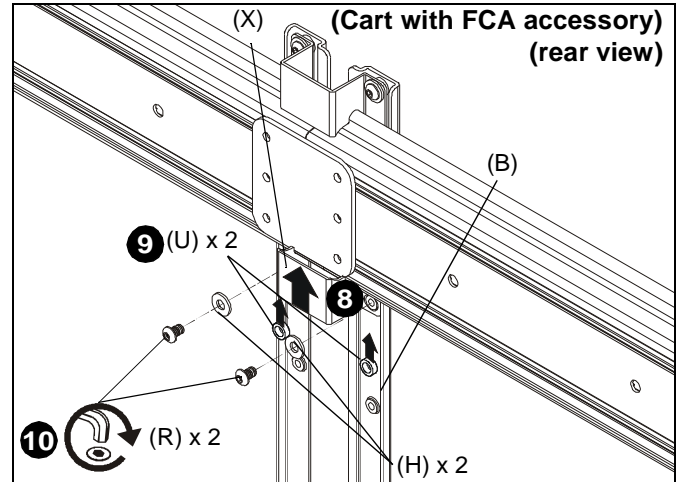

Figure 10
- Slide second shelf bracket (X) underneath head assembly, lining up holes on shelf bracket (X) to holes on main bracket (B). (See Figure 10)
- Slide two 1/2" spacers (U) in between shelf bracket (X) and main bracket (B). (See Figure 10)
- Use two 1/4-20 x 7/16" button head cap screws (R) and two large washers (H) to secure shelf bracket (X) to main bracket (B). (See Figure 10)